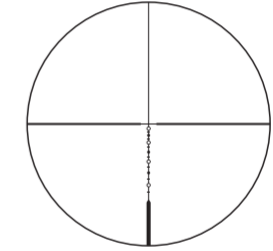

Fig. 3
(1) Focusing
- Look through the eyepiece with your eye positioned about 4 in. (10 cm) away from the eyepiece to see the BDC 800 reticle (Fig. 3).